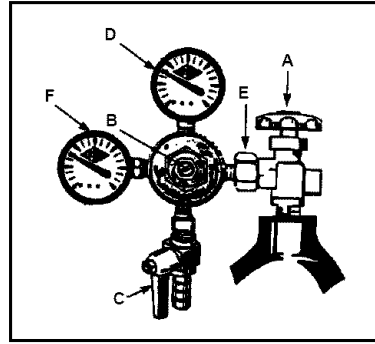

Fig. 13
1. Close the main cylinder valve (A) by turning in a clockwise direction. **See Fig.13**
2. Close the secondary shut-off valve (C) by turning to "horizontal" (east/west) position on lower stem pipe. **See Fig.13**
4. Remove the regulator assembly (E) from empty cylinder. **See Fig.13**
6. Re-attach regulator assembly (E) to new/replacement cylinder. **See Fig.13**
8. Slowly open main valve (A) all the way. **See Fig. 13**
9. Readjust regulator pressure (D) (if necessary) between 10 ~ 12 psi/lbs.
10. Open the secondary shut-off valve (C) by turning to "vertical" (north/south) position on lower stem pipe.